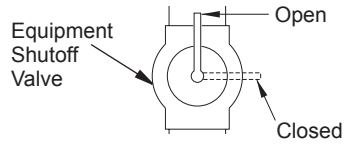

Figure 5 - Equipment Shutoff Valve
1. Close equipment shutoff valve (see Figure 5).